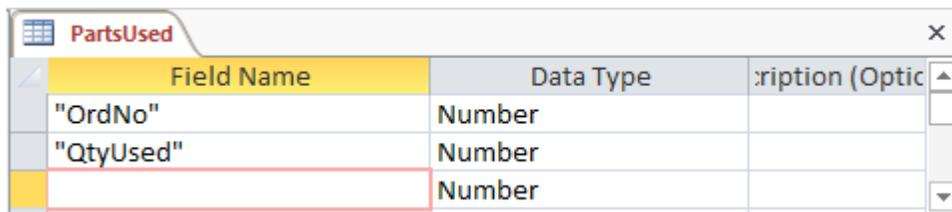

Figure 22: Selecting the Data Type in the Next Empty Row
4. Select the Data Type for a New Field: Click in the *Data Type* column of the next empty row. Select the "Number" data type for the new field as shown in Figure 22. Leave the Field Name area blank for now.